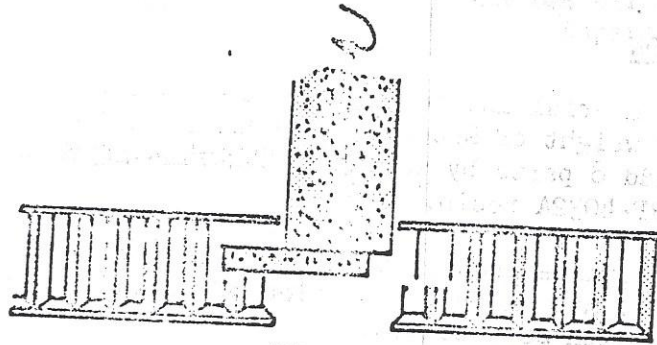

FIGURE 3
- 4.5 Undercut the core material to the diameter specified in Table 1. A tool of the type shown in Figure 3 may be used to remove the core. Excessive core removal should be avoided since this will increase the amount of potting required.
When undercutting the honeycomb with a tool as shown in Figure 3, be sure to rotate the tool several revolutions by hand before completing the cutting automatically. This action will alleviate the possibility of separating the honeycomb from the skins beyond the tip of the cutter.